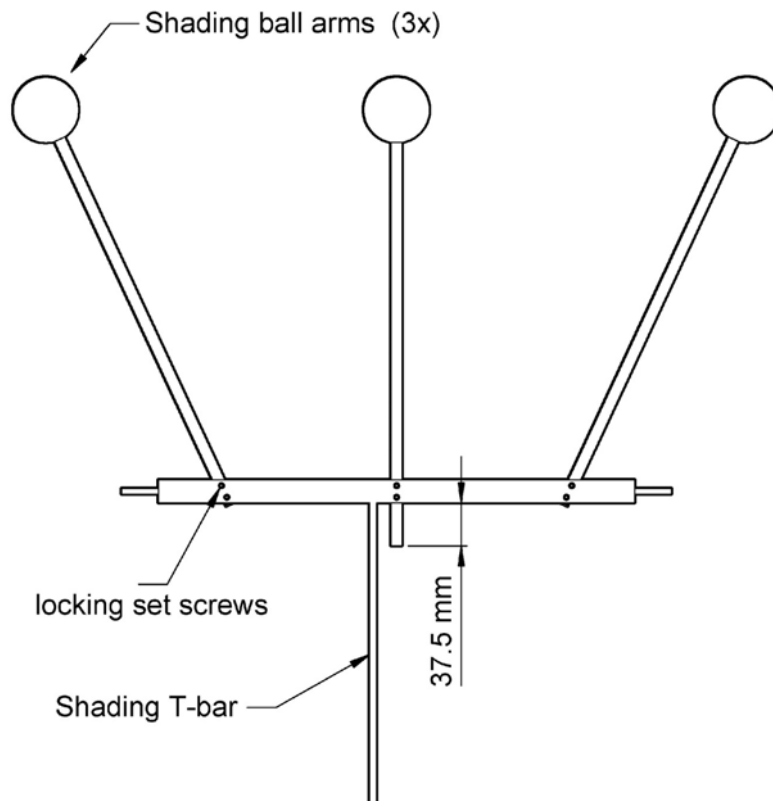

Figure 4.26: Shading Ball Rods Installation
- Install the Shading Ball Rods by sliding them into the designated holes. See figure 4.26 for preliminary positioning of the Ball Rods in the T-Bar. Fine-tuning of the Ball Rods must be done later in the setup after the Verification of Levelling Procedure. **DO NOT OVERTIGHTEN** the locking screws, it would make fine-tuning adjustments difficult later in the procedure.